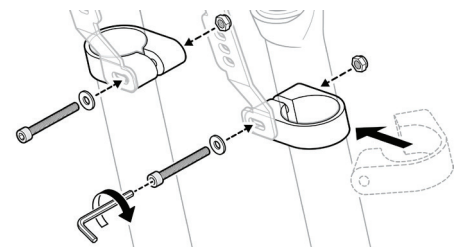

Figure 2 Install fork arm clamps.
- a. Position the fork arm clamps on the fork with the openings facing toward the center, and the mounting points aligned with the lock mount arms (see Figure 2). The nut pockets on the clamps should face the front of the bike.